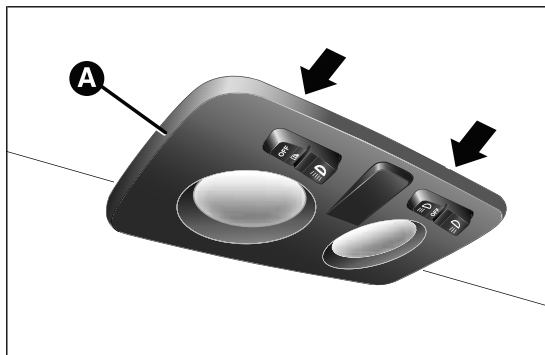
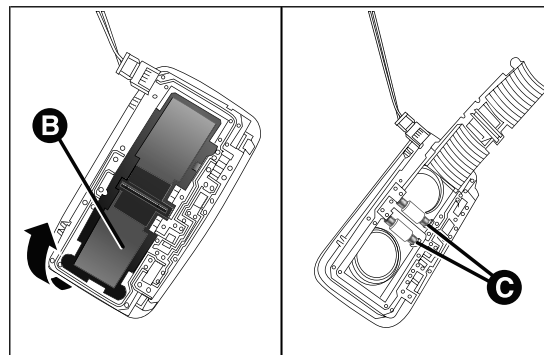

fig. 134
fig. 135
- ☐ remove lens A fig. 134;
- ☐ remove the roof light A fig. 134 working at the points indicated by the arrows;
- ☐ open the flap B fig. 135 and replace the bulbs C releasing them from the side contacts. Make sure that the new bulbs are correctly secured between the contacts;
- ☐ reclose the flap B fig. 135 and fix the roof light A fig. 134 in its housing making sure that it is locked.